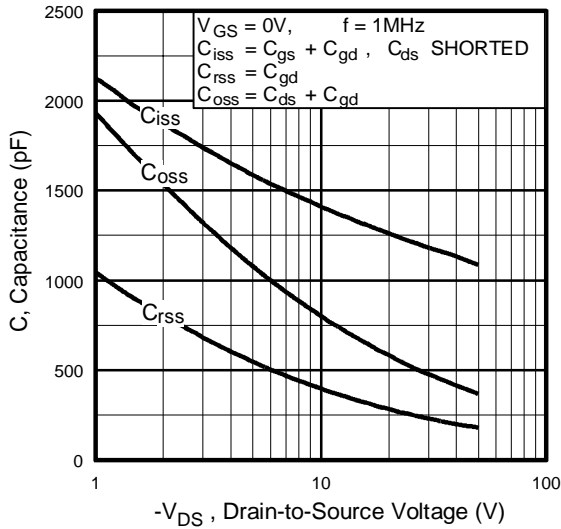

Fig 5. Typical Capacitance Vs. Drain-to-Source Voltage
| | C_{iss} | — | 1200 | — | pF | $V_{GS} = 0V$ $V_{DS} = -25V$ $f = 1.0\text{MHz}$, See Fig. 5 ⑥ |